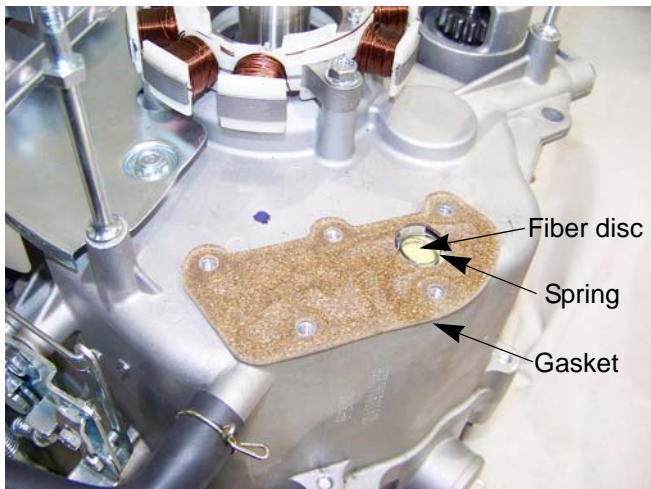

Figure 5.8
3. The cover and gasket can be separated from the chamber. See Figure 5.8.